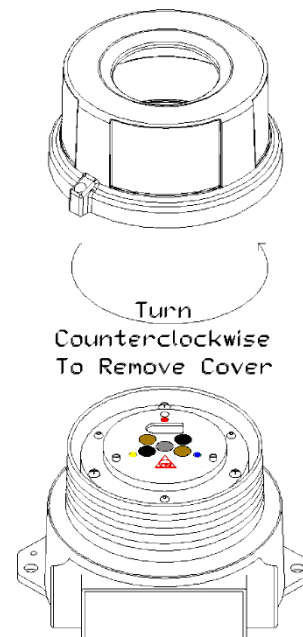

Figure 2-6
5. Turn counterclockwise (CCW) to unscrew the enclosure lid (see *Figure 2-6*).